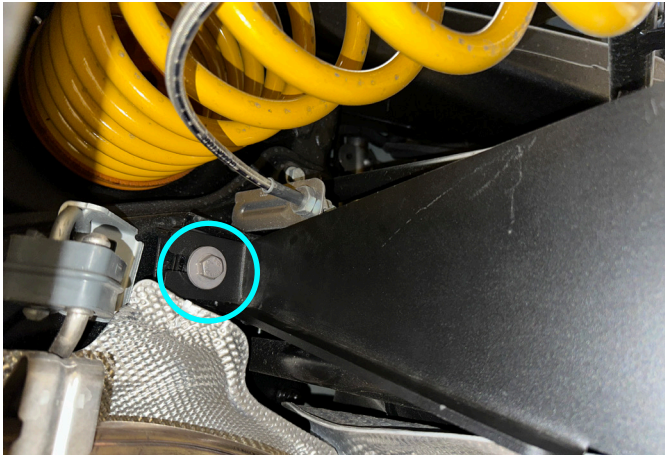

Fig. 5
5. Install the rear bracket (item 3) by sliding it over the previously loosened bolt and loosely secure the factory bolt as shown in fig.5.